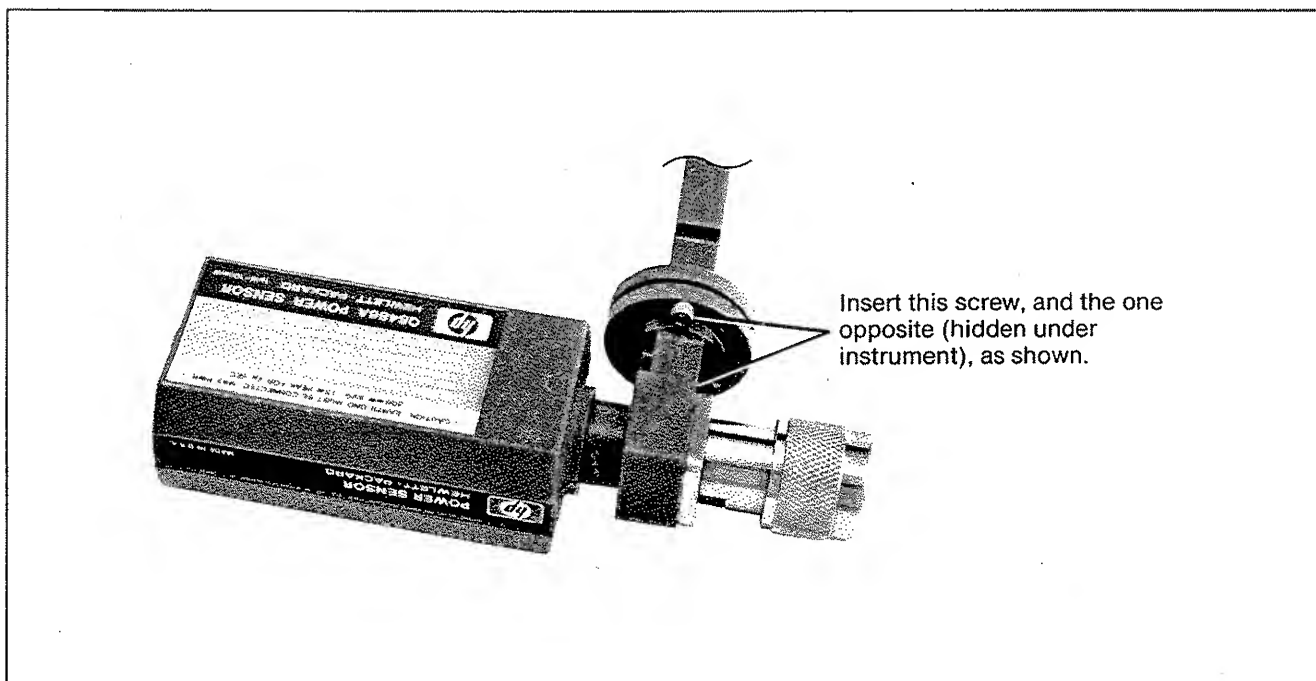
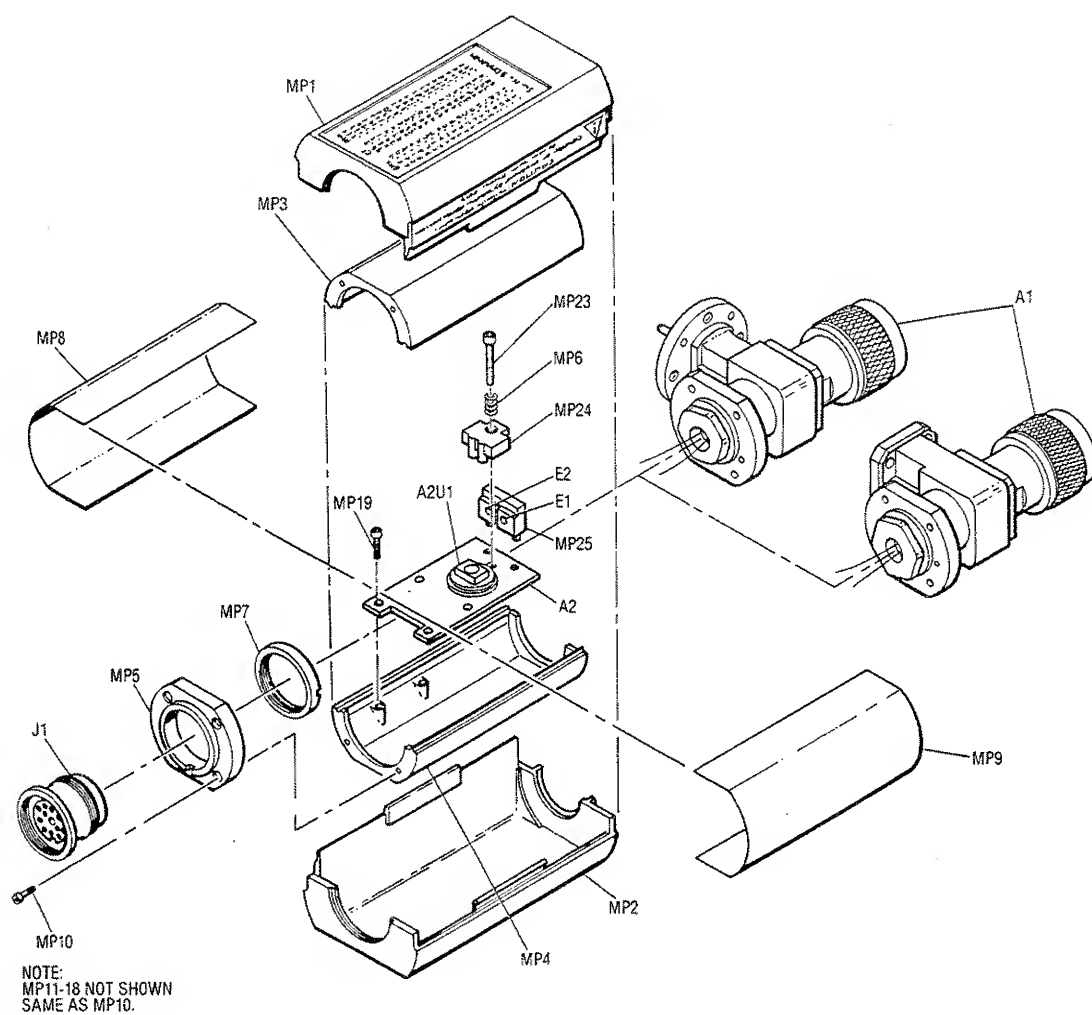

Figure 2. Q-Band Power Sensor to Waveguide Connection
Figure 3. Illustrated Parts Breakdown
- Insert the two screws, indicated in Figure 2, from the power sensor side of the flange. The other two screws can be inserted from either side of the flange. Tighten the four screws until just finger tight.
Table 6 is a list of replaceable parts. Figure 2 is the illustrated parts breakdown (IPB) that identifies the major assemblies and chassis parts. The mounting locations of the components on the A2 Input Amplifier Assembly are shown in Figure 3. To order a part, quote the Hewlett-Packard part number and Check Digit (CD), specify the quantity required, and address the order to the nearest Hewlett-Packard office (see NOTE below). To order a part not listed in Table 5, give the instrument model number, instrument serial number, the description and function of the part, and the quantity of parts required.
Capacitors A2C2, A2C3, A2C7, and A2C8 (Figure 3) require low-temperature soldering techniques. The connection to these capacitors is a gold film deposited on a ceramic base. Molten solder causes the gold to form an amalgam with the solder so the gold dislodges from its ceramic base. Soldering must be done quickly using a low-temperature soldering iron and solder. The capacitors must be discarded if unsoldered. If integrated circuit A2U1 or transistor A2Q1 is replaced, two of these capacitors must be removed, and therefore must be replaced with new ones. The required low-temperature soldering iron and solder are as follows: